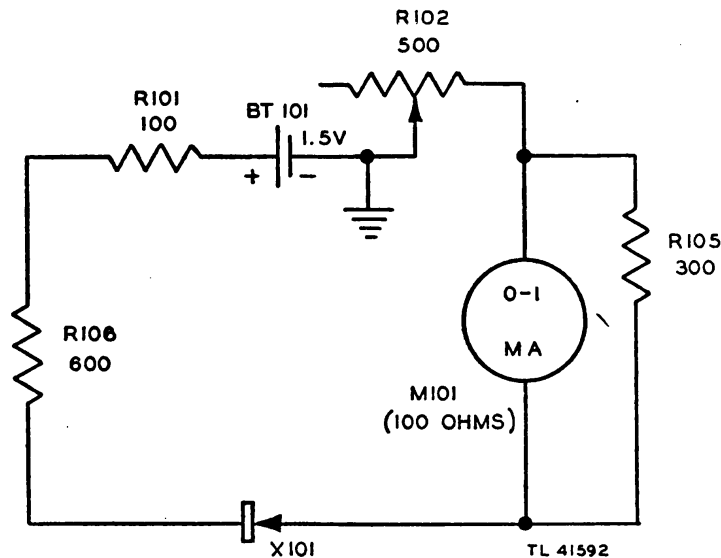

Figure 8. Circuit for backward resistance measurements, simplified schematic diagram.
(4) *BKWD RES Position (fig. 8)*. With the selector switch in this position, the same connections are made as in subparagraph (3) above except that the connections to the crystal rectifier are reversed. The subsequent reading obtained on the meter then represents the backward resistance of the crystal rectifier.